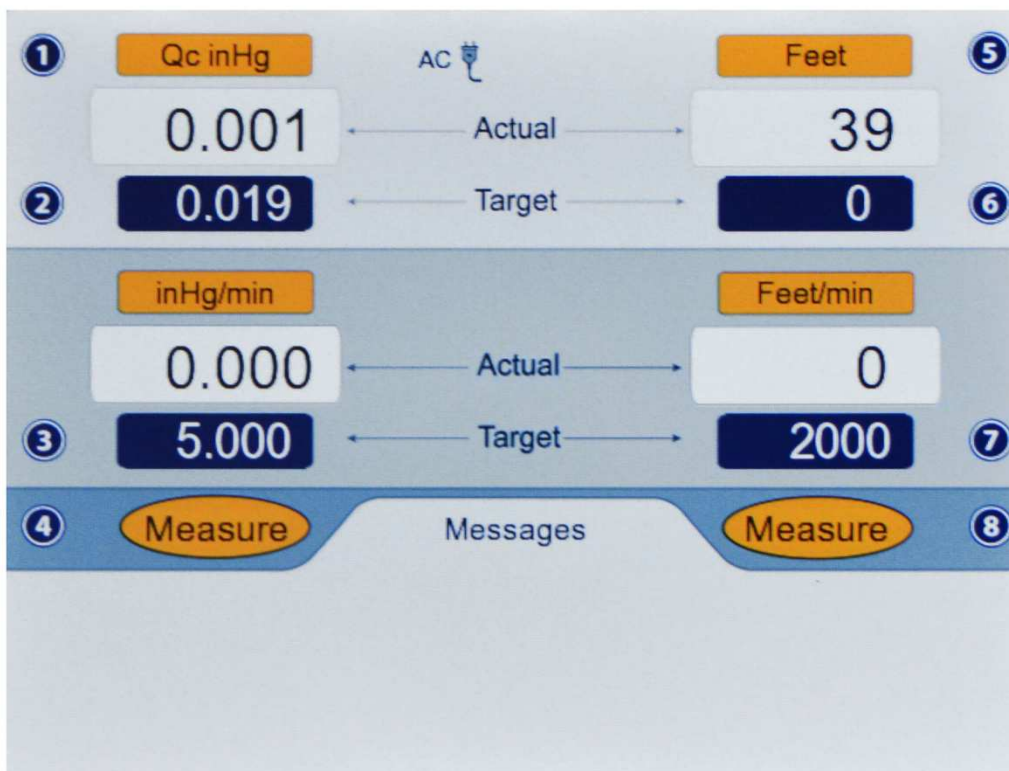

Figure 3.4 : Select QcinHg
For example, if units of QcinHg is to be selected, in the 'Pitot units (1)' screen, press '6'. The Lower section will blank out and the Upper section will appear as shown in Figure 3.4 below.